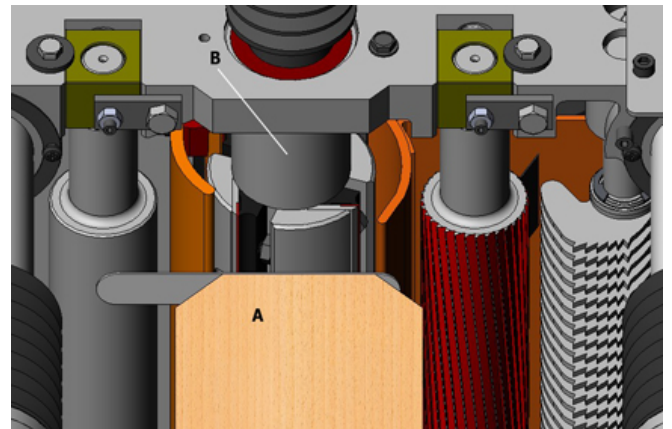

Fig. 19
2. Place gauge block between upper head casting and table, make them contact slightly. (Fig. 19).